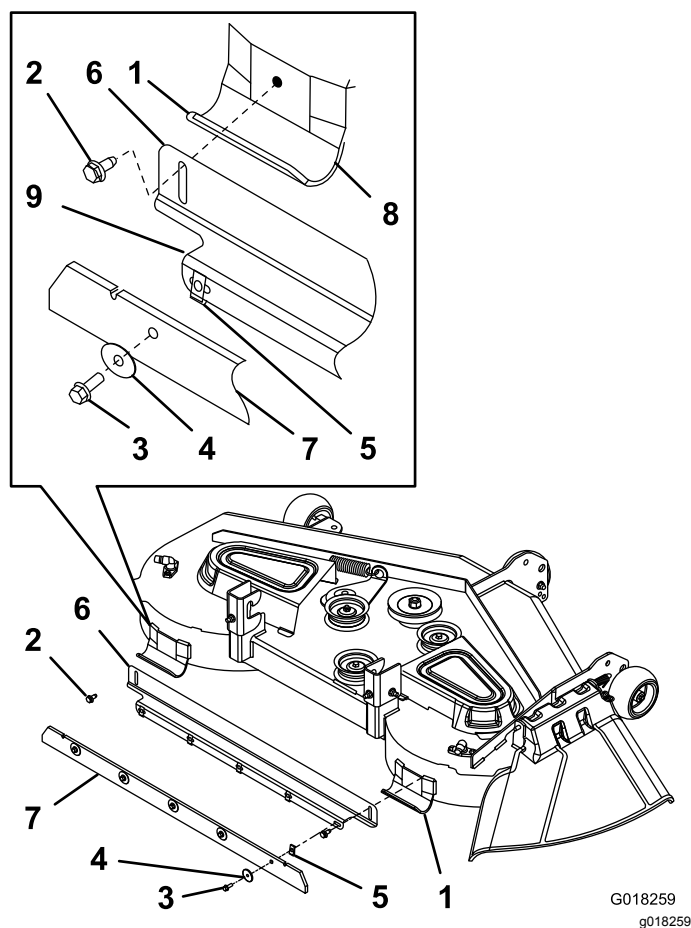

Figure 2
- Locate the left and right skids on the rear facing side of the mower deck as shown in Figure 2.
- Center the wiper flange of the striping bracket between the skids and align the top edge of the striping bracket with the top edges of the skids (Figure 2).
- Using the striping bracket as a drilling template, locate the hole position for the left or right skid, centered at the top of the slot in the mounting flange. Drill a hole in the skid using a 9/32 inch drill bit (Figure 2).
- Secure the mounting flange of the striping bracket to the drilled skid with a self-threading, washer-head screw (Figure 2).
- Using the striping bracket as a drilling template, locate the hole position for the other skid, centered at the top of the slot in the mounting flange. Drill a hole in the skids using a 9/32 inch drill bit (Figure 2).
- Secure the unattached end of the striping bracket to the skid with a self-threading, washer-head screw (Figure 2).
- Align the striping bracket so that the mounting flange is up and facing the mower deck (the wiper flange is down and away from the deck) as shown in Figure 2.